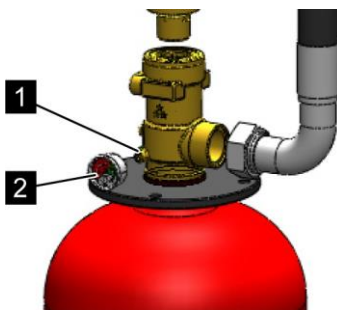

Fig. 64: Screw in the contact pressure gauge
2. ➔ Screw the contact pressure gauge (Fig. 64/2) into the connection on the valve (Fig. 64/1) as far as it turns easily *by hand*.